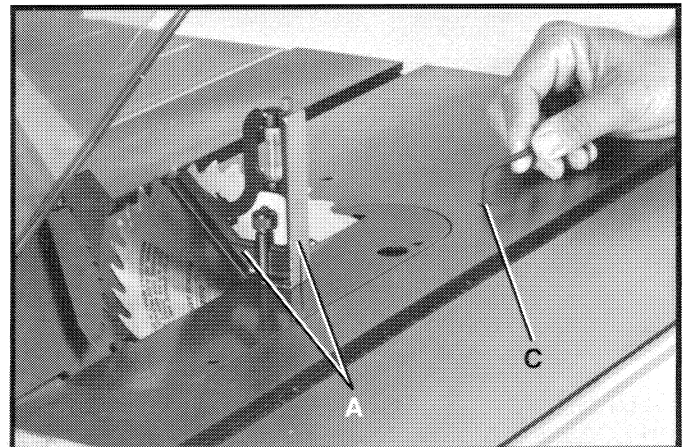

Fig. 69
7. Turn the blade tilting handwheel clockwise as far as it will go and using a combination square (A) Fig. 69, check to see if the blade is at 45 degrees to the table.
8. If the blade is not at 45 degrees to the table, loosen set screw (C) Fig. 69, and turn blade tilting handwheel until you are certain the blade is 45 degrees to the table. Then turn set screw (C) clockwise until it bottoms.